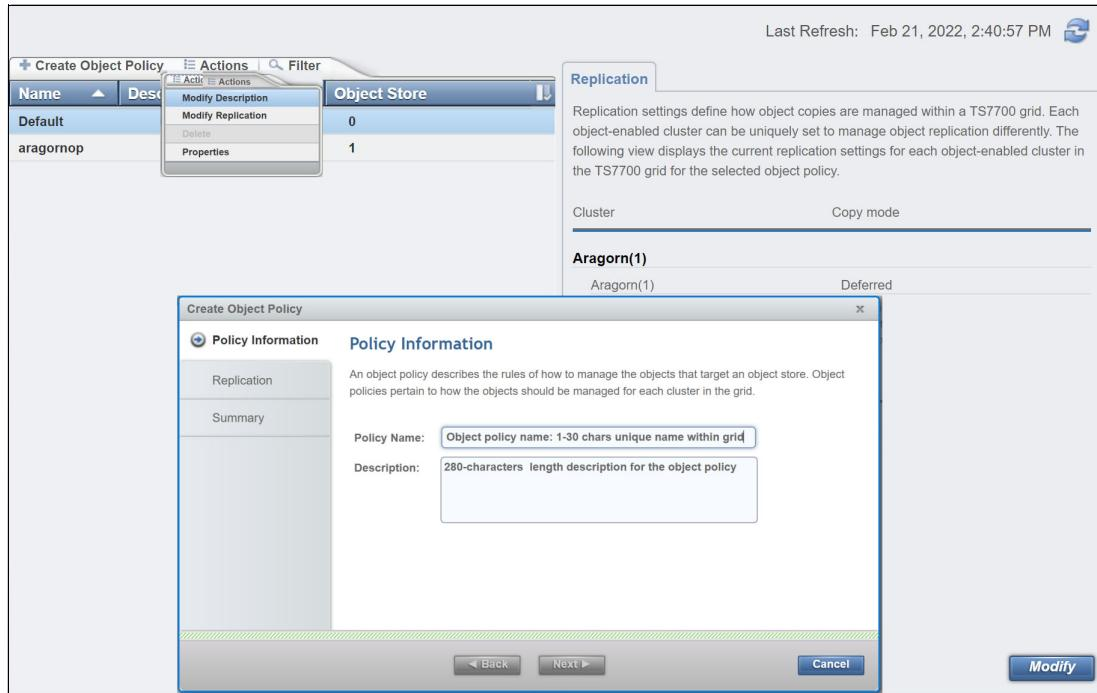

Figure 9-56 Object Policy page and Create Object Policy detail.
Figure 9-56 on page 455 shows the Object Policy page, and Create Object Policy detail.
1. Click **Create Object Policy** (see Figure 9-56).